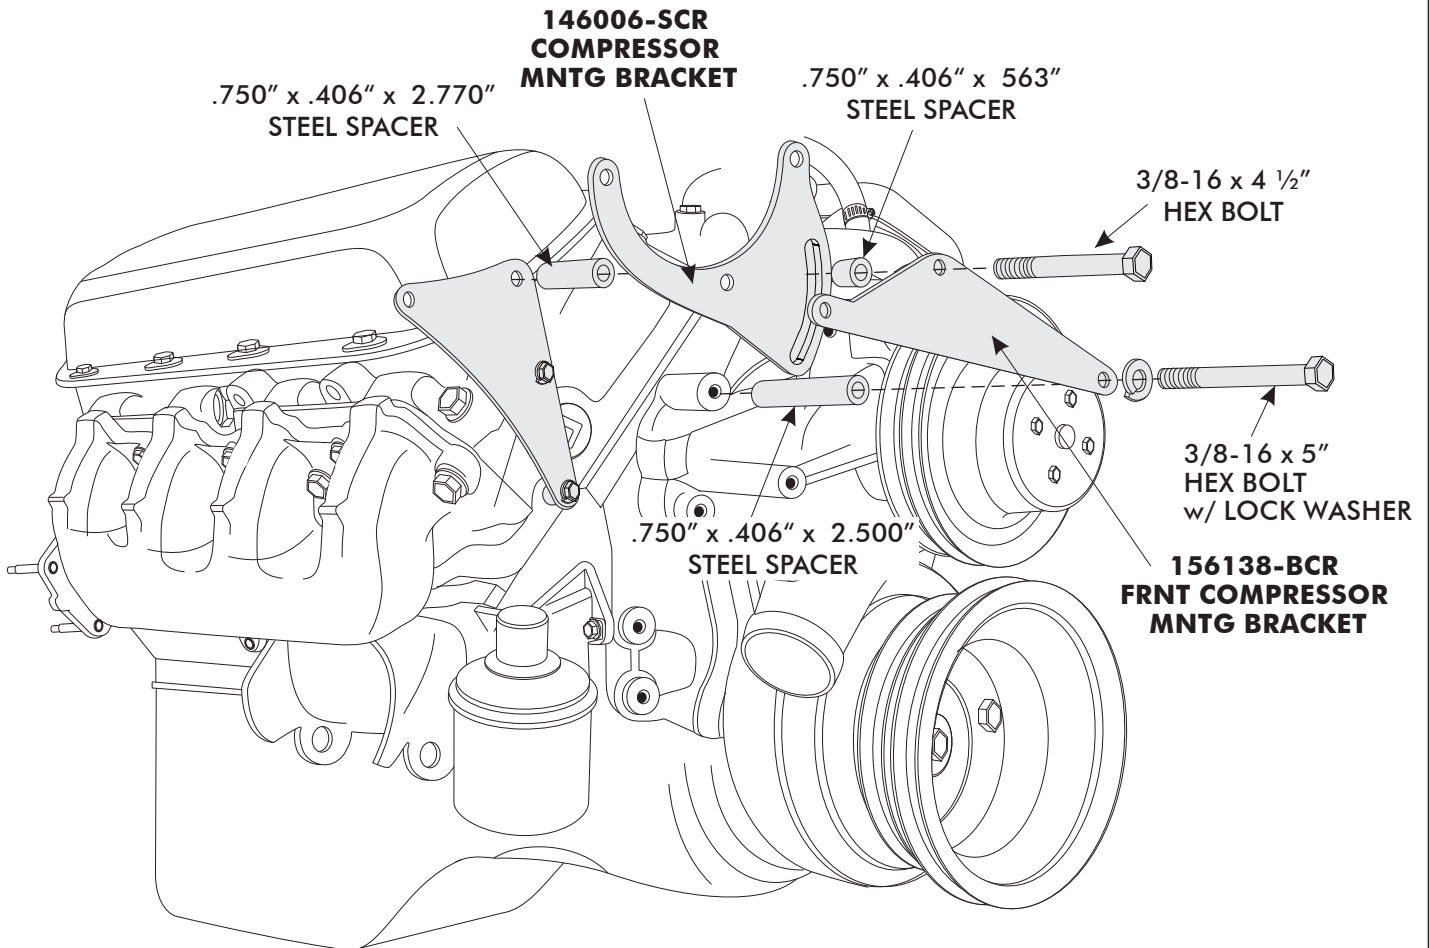

FIGURE 2
- INSTALL THE FRONT COMPRESSOR MOUNTING BRACKET AS SHOWN IN FIGURE 2, BELOW. SECURE USING A 3/8-16 x 5" HEX BOLT w/ LOCK WASHER AND 2.500" SPACER THROUGH THE TOP WATER PUMP MOUNTING HOLE.
- WITH THE FRONT MOUNTING BRACKET INSTALLED, INSTALL THE COMPRESSOR MOUNTING BRACKET AS SHOWN BELOW IN FIGURE 2. SECURE THE BRACKET USING THE 3/8-16 x 4 1/2" HEX BOLT, INSTALL THE BOLT THROUGH THE FRONT MOUNTING BRACKET, THEN INSTALL THE .563" SPACER OVER BOLT. ALIGN THE COMPRESSOR MOUNTING BRACKET ADJUSTER SLOT AND SLIDE THE BOLT THROUGH THE BRACKET. INSTALL THE 2.770" SPACER OVER THE BOLT AND THREAD THE BOLT INTO THE REAR MOUNTING BRACKET AS SHOWN. SEE FIGURE 2 BELOW.